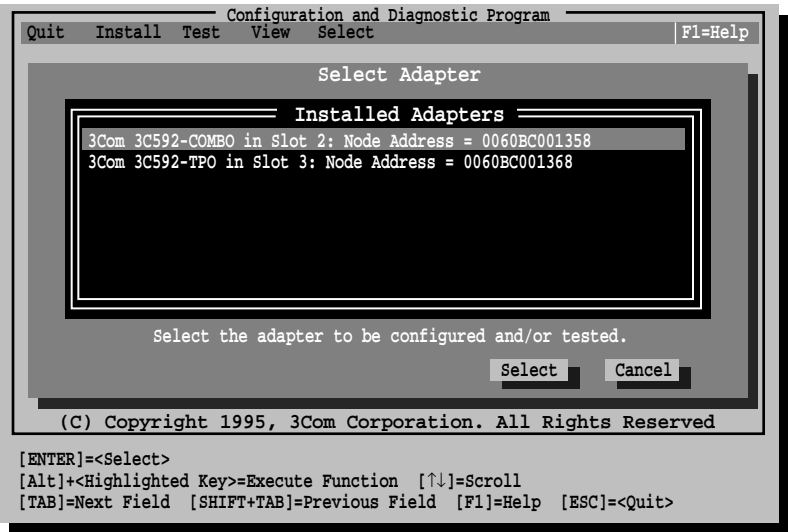

Figure 3-4 Multiple Adapter Option Configuration
- 9 If you have multiple adapters installed, as shown in Figure 3-4, use the arrow keys to select the desired adapter and press [Enter].